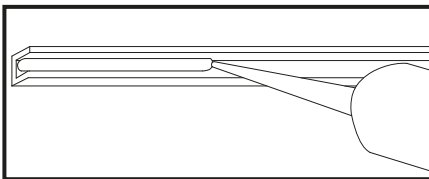

Figure 5
7. Apply an even strip of silicone inside the U-profiles. (Figure 5)